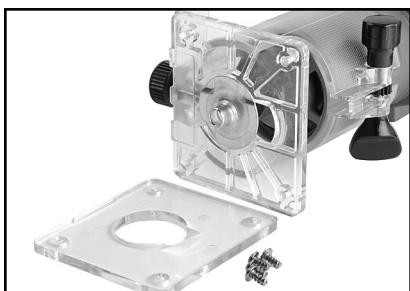

Figure 10. Installing the template guide.
1. Remove the screws securing the bottom of the router base as shown in **Figure 10**.